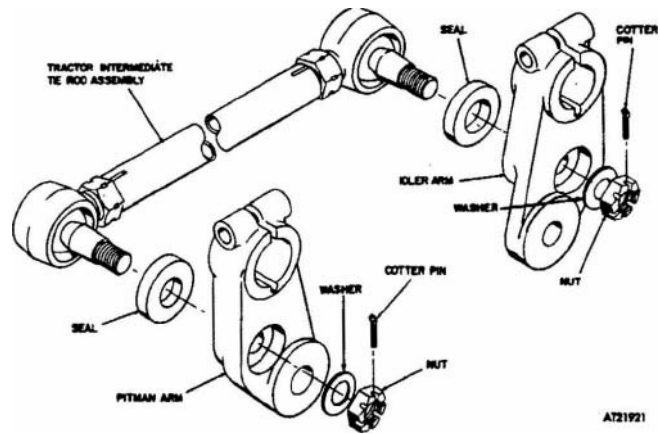

Figure 2-268. Tractor intermediate tie rod, removal and installation.
(1) Remove two cotter pins, nuts, and washers securing rod ends of intermediate rod assembly to idler and pitman arms (fig 2-268). Turn steering to a convenient position.
(2) Remove rod ends of intermediate rod assembly from idler and pitman arms using removal tool (11595179).
(3) Remove nut, lock washer, and bolt securing pitman arm to steering gear box. Remove arm from shaft.
(4) Remove nut, lock washer, and bolt securing idler arm to idler arm shaft. Remove arm from shaft.
(5) Remove intermediate rod from right-hand side of vehicle.
(1) Check to ensure that measurement between center of rod ends is 31-3/4 inches. If necessary, loosen jam nuts securing rod ends and adjust to attain measurement. Torque nuts securing rod ends 90-100 lbs-ft.
(2) Position intermediate rod assembly in its respective location on vehicle (fig 2-268).
(3) Install idler arm on idler arm shaft and secure with screw, lock washer and nut. Torque nut to **95-120** lbs-ft.
(4) Position pitman arm on steering gear box shaft. Align slot in pitman arm with index mark on steering gear box shaft and secure with screw, washer, and nut. Torque nut to **95-120** lbs-ft.
(5) Install a seal on each of the rod ends of intermediate tie rod assembly. Secure with two nuts, washers and cotter pins.
(6) Perform wheel alignment (para 2-169).